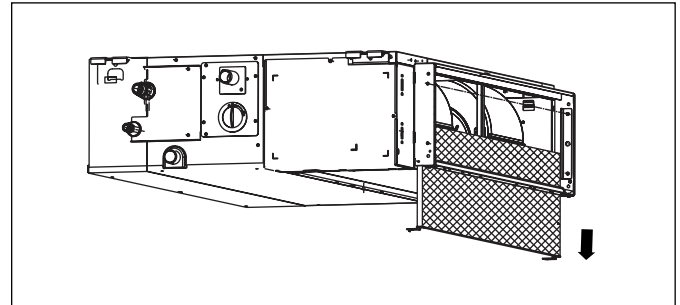

Figure 4
1. Locate the MANUAL CONTROL button on the left-hand side of the display board (Figure 4).